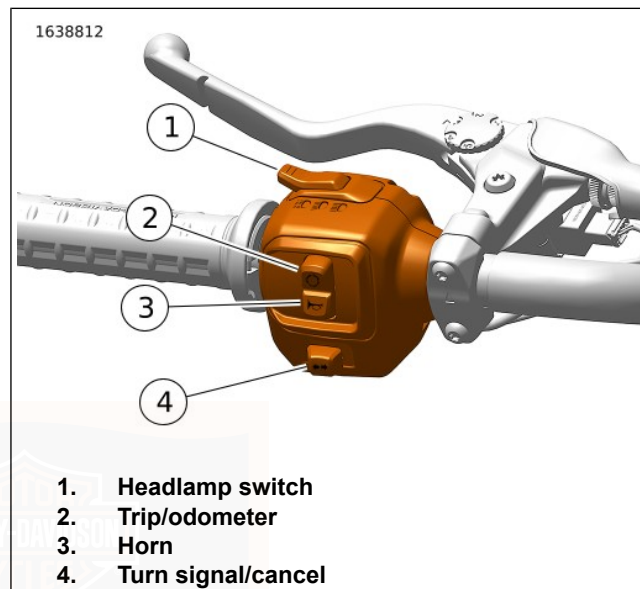

Figure 40. LHCM (Without Infotainment)
- **Flash to Pass:** See Figure 40. When the headlamp switch (1) is in the low beam position, press down and release the headlamp switch to use the flash to pass to flash the high beam before passing another vehicle. The high beam indicator on the IM is illuminated as long as the flash to pass button is pressed. When in accessory, press the flash to pass button to activate the headlamp.
- **Low Beam:** See Figure 40. From the high beam position, press the headlamp switch (1) down to activate the low beam.
- **High Beam:** See Figure 40. Press the headlamp switch (1) up to activate the high beam. The (blue) high beam indicator lamp is lit when the high beam is on.
See Figure 40. The trip button (2) activates the trip odometers. The trip button also is used to scroll through the additional screens of the odometer display. With the ignition off, the trip button can activate time or odometer displays.
- **Left turn signal:** See Figure 40. Push the turn signal switch (4) to the left to activate the left turn signal.
- **Right turn signal:** See Figure 40. Push the turn signal switch (4) to the right to activate the right turn signal.
- **Cancel:** See Figure 40. Press the turn signal switch (4) straight in to manually cancel the signals.
See Figure 40. The horn is operated by pressing the horn button (3). The horn can be activated for up to 10 seconds at a time. If the horn button is held for a longer period, the horn automatically deactivates.